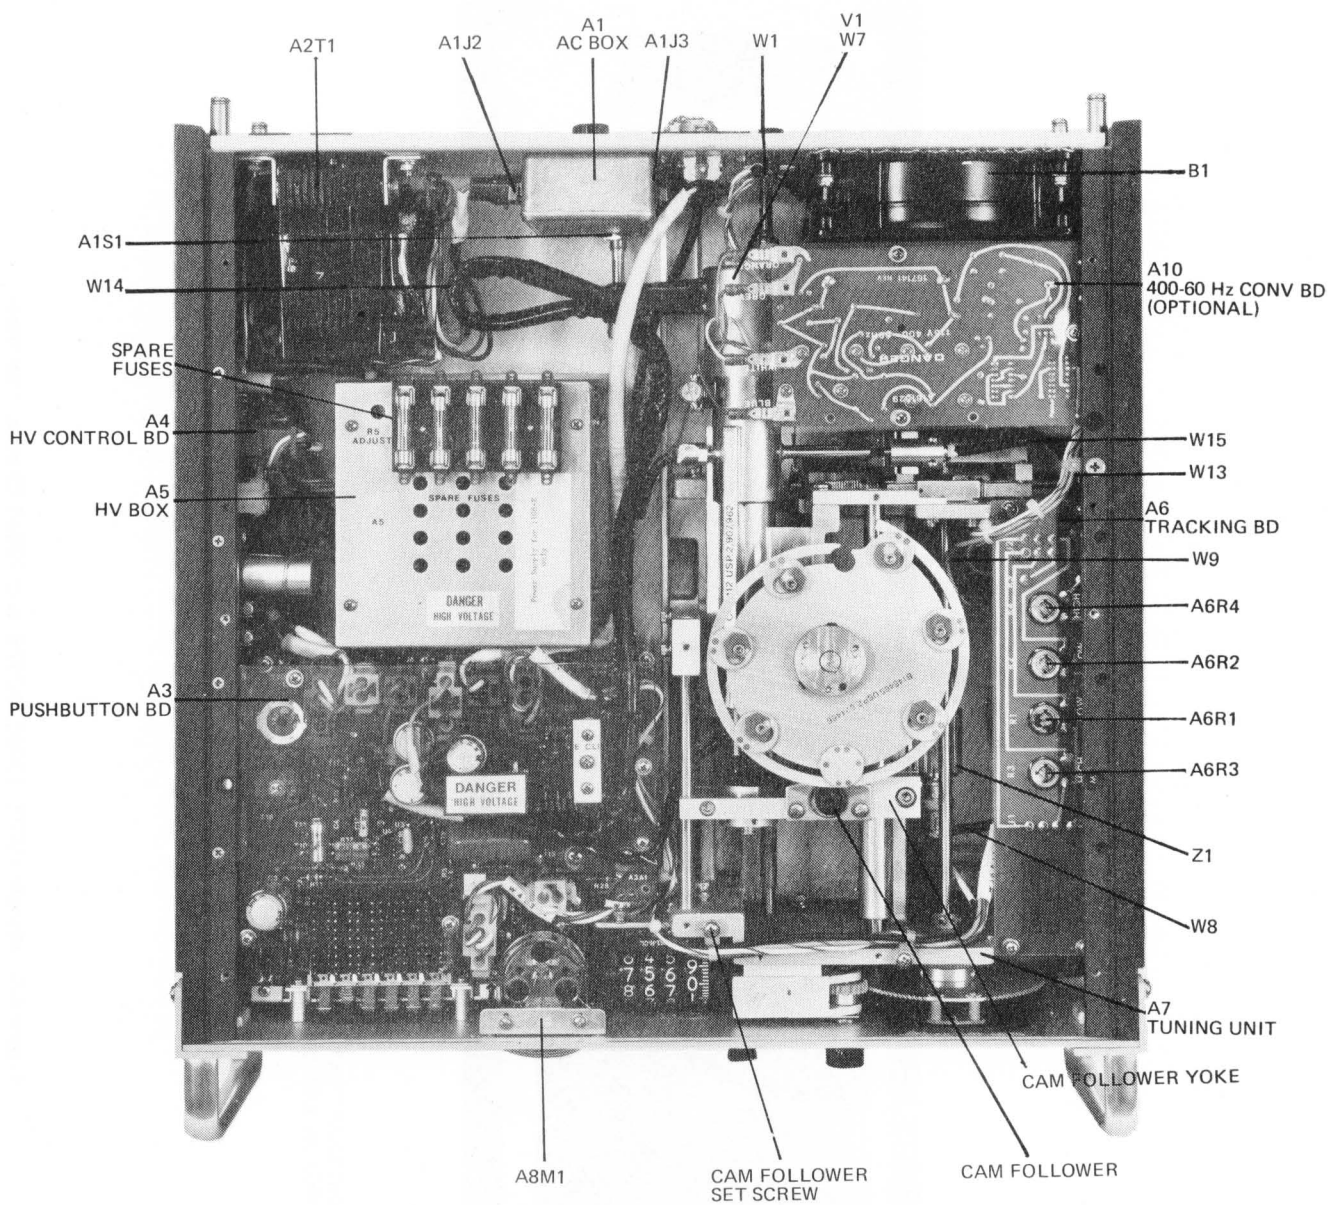

Figure 4-8. Models 1107E, 1108E, 1207E, and 1208E Chassis, Top View
- h. Frequency meter reading should be within $\pm 0.1\%$ of FREQUENCY GHz readout. If it is not, loosen the socket head screw in the cam follower yoke (figure 4-8) and adjust push rod yoke to bring frequency within tolerance. Retune frequency meter to check push rod yoke adjustment and then tighten socket head screw.